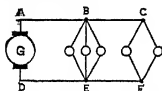

FIG. 66. The current is different in different sections of the line.
**Prob. 6-3.** If each lamp, Fig. 66, takes 0.3 ampere, how much current flows in the following sections of the line: *AB*, *BC*, *DE* and *EF*?